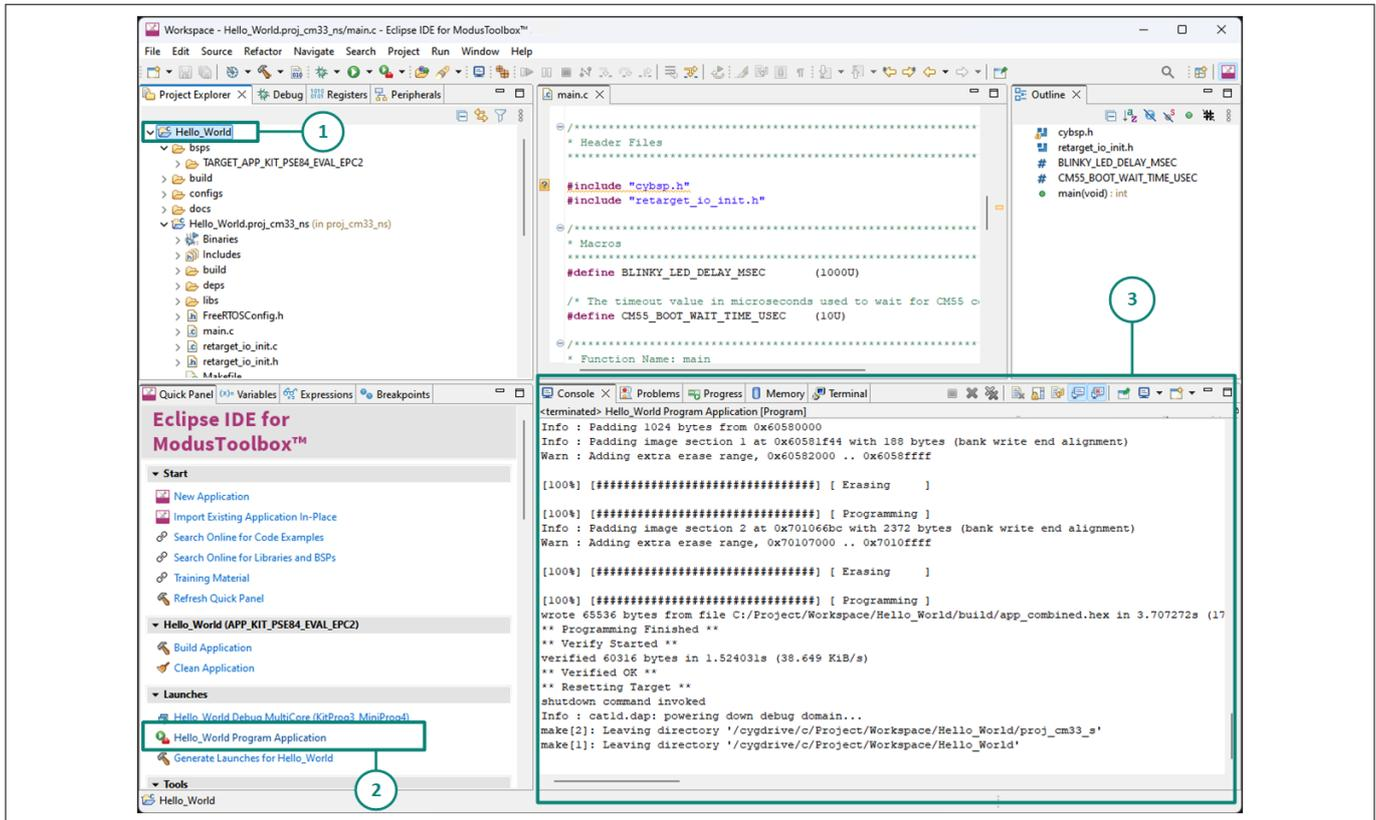

Figure 17 Programming an application to a device
To program the application, do the following, as shown in Figure 17:
2. Select the application project and click the **Hello_World Program Application (KitProg3_MiniProg4)** shortcut under the **Launches** group in the **Quick Panel**, as Figure 17 shows. The IDE selects and runs the appropriate run configuration